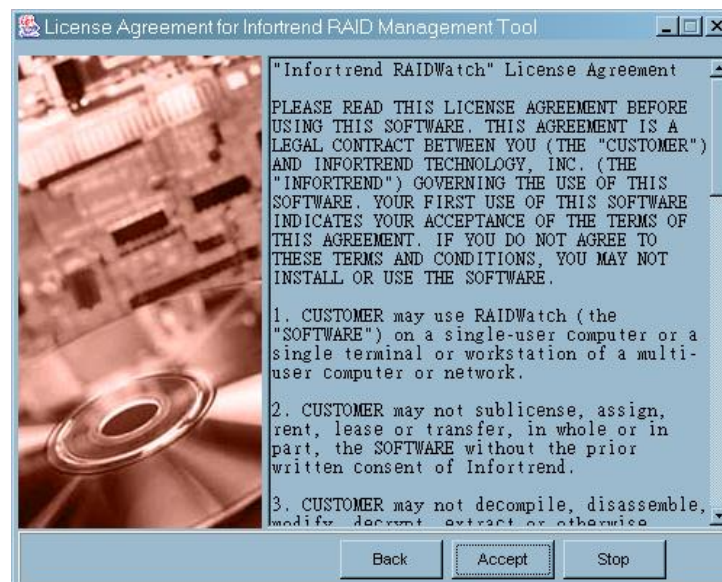

Figure 2-4: License Agreement
-  **Step 7.** If you selected the *Next* button on *Figure 2-3*, the License Agreement window seen in *Figure 2-4* will appear. First read through the License Agreement. If you are in agreement with the specified terms and wish to continue installing the RAIDWatch program, select *Accept*. If you do not wish to continue with the installation process then select the *Stop* button.
-  **Step 8.** If you accepted the License Agreement in *Figure 2-4*, a new window with three installation options will appear. These options, shown in *Figure 2-5*, are *Centralized Management*, *Stand-alone (on Host)*, and *Stand-alone (on Subsystem)*.